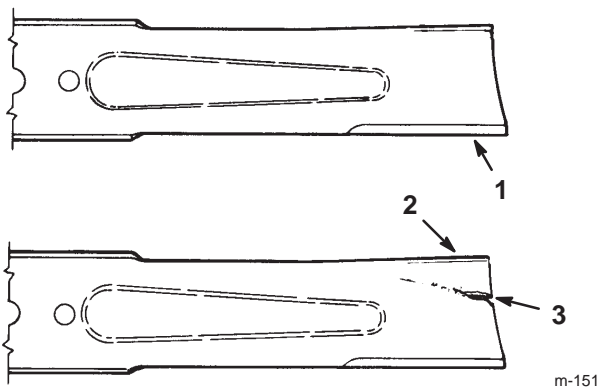

Figure 27
1. Inspect the cutting edges (Fig. 27). If the edges are not sharp or have nicks, remove the blade and sharpen them; refer to Sharpening the Blade on page 29.
2. Inspect the blade, especially the curved area (Fig. 27). If you notice any damage, wear, or a slot forming in this area (Fig. 27), immediately install a new blade.